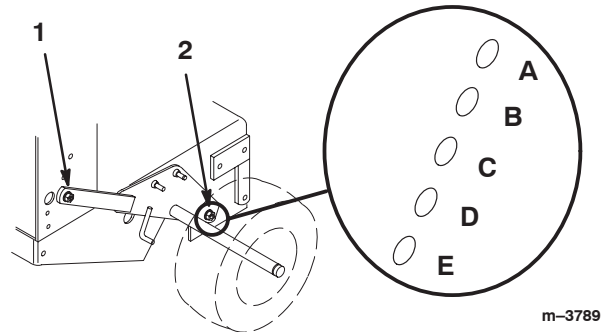

Figure 20
3. Loosen, but do not remove, the 2 axle pivot bolts and the 2 axle adjustment bolts (Fig. 20).
4. Place a jack under the rear center of the engine frame. Raise the back end of the engine frame up enough to remove the front 2 axle adjustment bolts (Fig. 20).
5. Raise or lower the engine frame with the jack so that you can install the front 2 axle adjustment bolts in the desired hole location (Fig. 20).